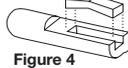

Figure 4
7. Temporarily mount the switch and place the original dial on the new switch shaft using one or more of the adaptors on the sprue tree (figure 3). Make sure the shaft goes in all the way. See figure 4 for assembly of spring clip to adaptor if applicable.